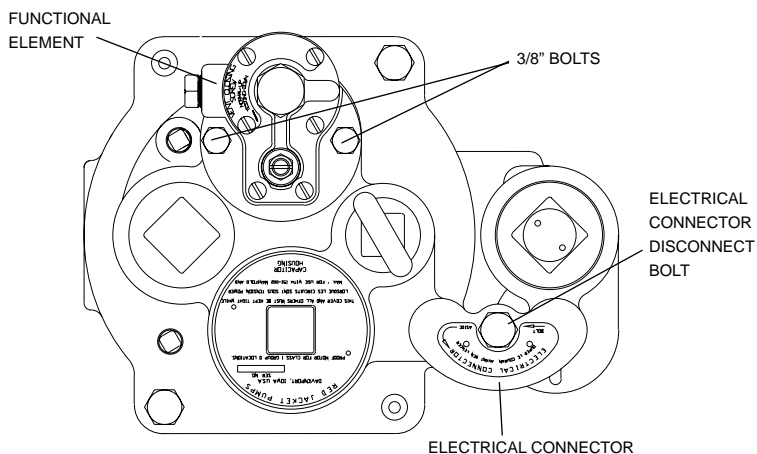

Figure 4.4 Packer with Functional Element
- 1: Back out the electrical connector disconnect bolt. (See fig. 4.4)